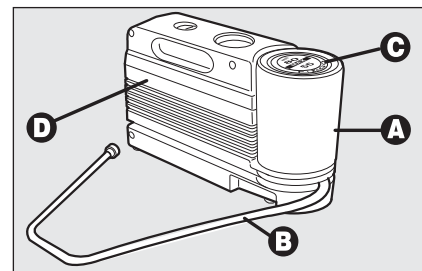

fig. 11
The kit **fig. 11** is placed in the boot. In the kit container you will also find the screwdriver and the tow hitch.
- ☐ a bottle **A-fig. 11** containing the sealer, fitted with: